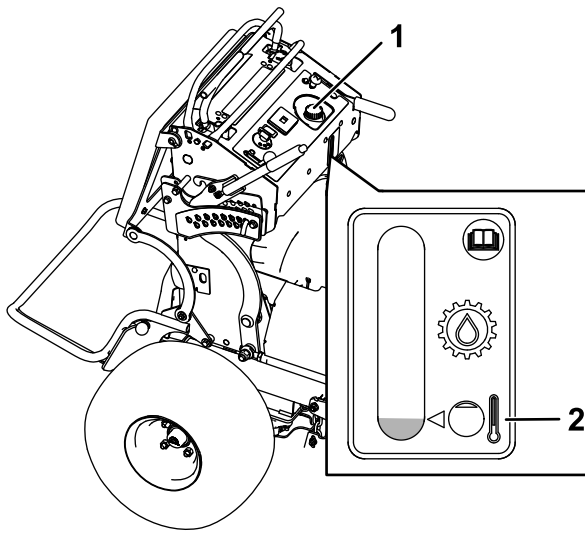

Figure 75
4. Clean the area around the cap and the filler neck of the hydraulic tank (Figure 75).
5. Remove the cap from the filler neck (Figure 75).